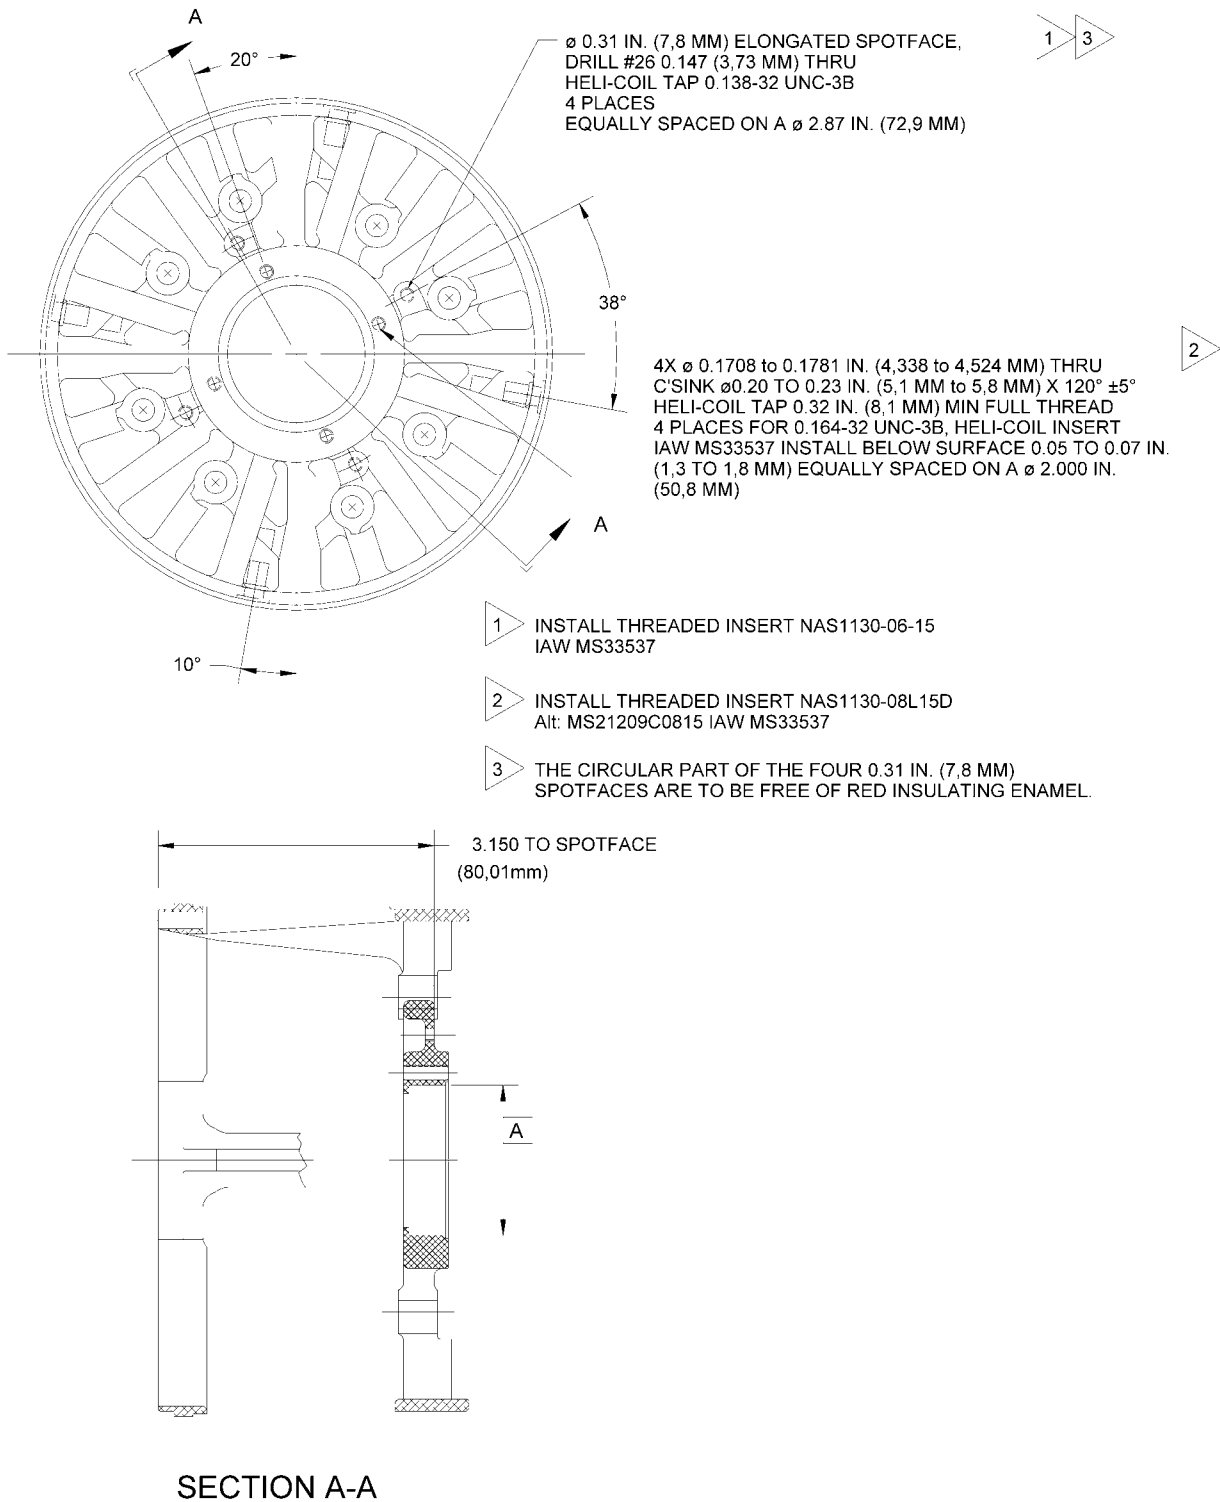

Figure 1 - Location of Heli-Coils in the Anti-Drive End (ADE) End Bell
The anti-drive end (ADE) end bell (P/N 23085-1810) must have four holes drilled, spot faced and tapped with heli-coils put in to relocate ground leads for the filter board assembly. Also, the four bearing retainer holes must have heli-coils installed. If heli-coils are not installed in the ribs of the anti-drive end (ADE) end bell (P/N 23085-1810) and in the bearing retainer holes, disassemble the bearing and brush support assembly following the instructions in the DISASSEMBLY section of the referenced CMM. Refer to Figure 1 for the location of required heli-coils. The following options are available for the modification of the ADE end bell:
- (1) Refer to the REPAIR section of the referenced CMM and SPD (Standard Practice Document) 1003 for removal of surface coatings.
- (2) If required, install threaded inserts (heli-coils), (P/N NAS1130-06-15) into ribs, as shown in Figure 1 and as follows:
- (3) If required, install threaded inserts (heli-coils), (P/N NAS1130-08L15D, Alt: MS21209C0815) into bearing retainer screw holes, as shown in Figure 1 and as follows:
- (a) Drill through with a 0.1708 to 0.1781 inch (4,338 to 4,524 mm) drill bit. The four holes are located on a 2.000 inch (50,8 mm) basic diameter. See Figure 1.
NOTE: Assembly must be done using a modified or original ADE end bell (P/N 23085-1810) that has heli-coils installed into the ribs and bearing retainer holes of the ADE end bell as shown in Figure 1.